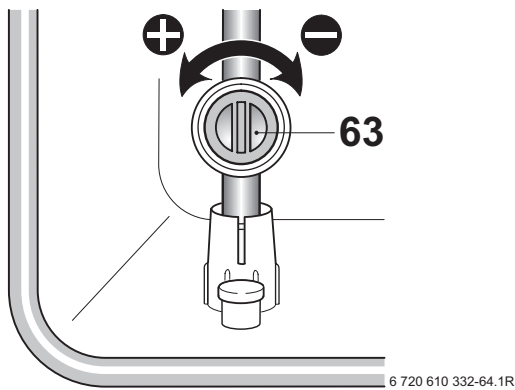

Fig. 43
- ▶ Adjust the gas flow restrictor (63) to obtain the CO₂ level given in Table 14. Refer to fig. 43.